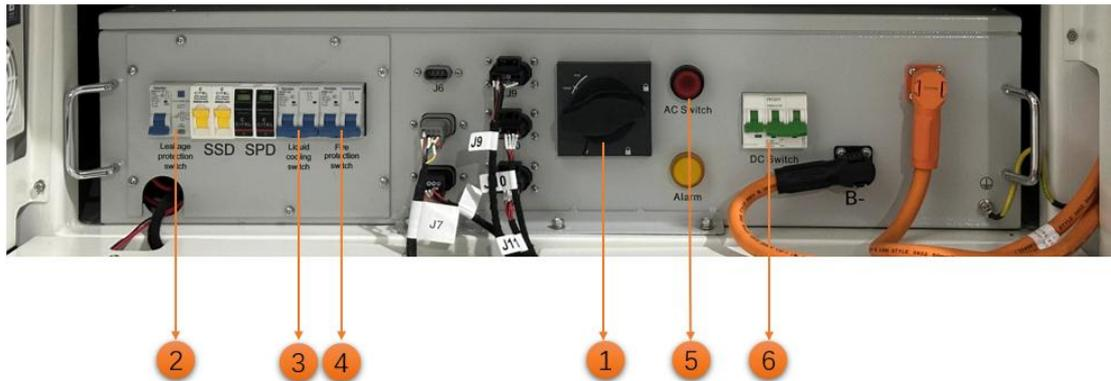
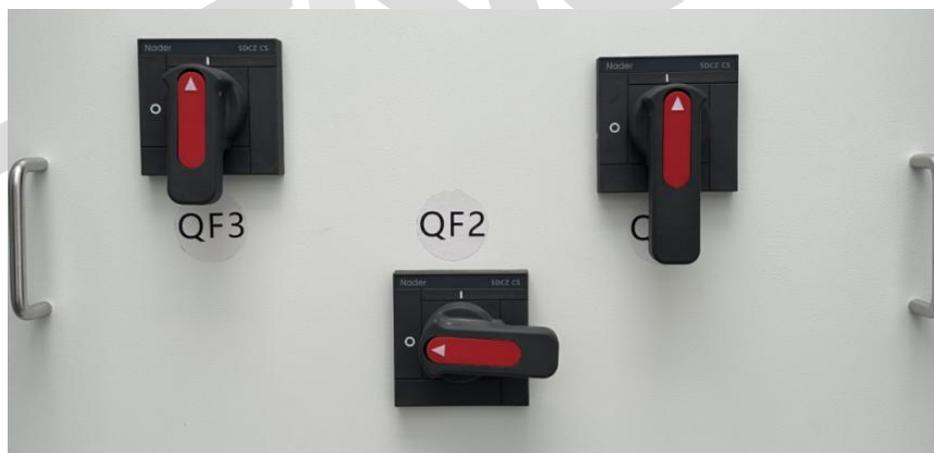

Fig 9-7 Battery cabinet power-on sequence
Fig 9-9 Circuit breaker location
Manually disconnect the circuit breaker QF3 (Fig9-9) on the load side in the electrical cabinet.
Manually disconnect the switch on the high-voltage box (Fig9-7) in the battery cabinet, first turn the DC circuit breaker switch (1) on the high-voltage box to the OFF state, then disconnect the DC power switch (6) and the AC power button switch (5), and finally turn off the fire switch (4) in turn Liquid-cooled switch (3) and leakage protection switch (2) are sufficient.
Manually disconnect the AC circuit breaker QF1 (Fig9-9) in the electrical cabinet.
- After the emergency stop buttons are pressed, manually disconnect the molded case circuit breaker (Fig9-7: (1)) on the high-voltage box in the battery cabinet, and manually disconnect the electrical cabinet circuit breaker QF1 and QF3 (Fig9-9);